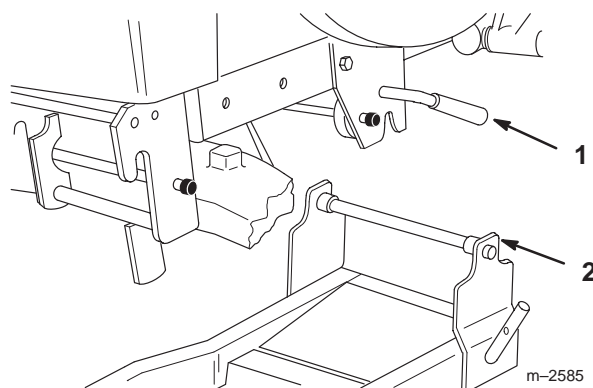

Figure 9
5. Position tractor over rear of snowthrower frame. Open mid-mount hitch and lift frame rod into hitch. Close and lock hitch (Fig. 9).